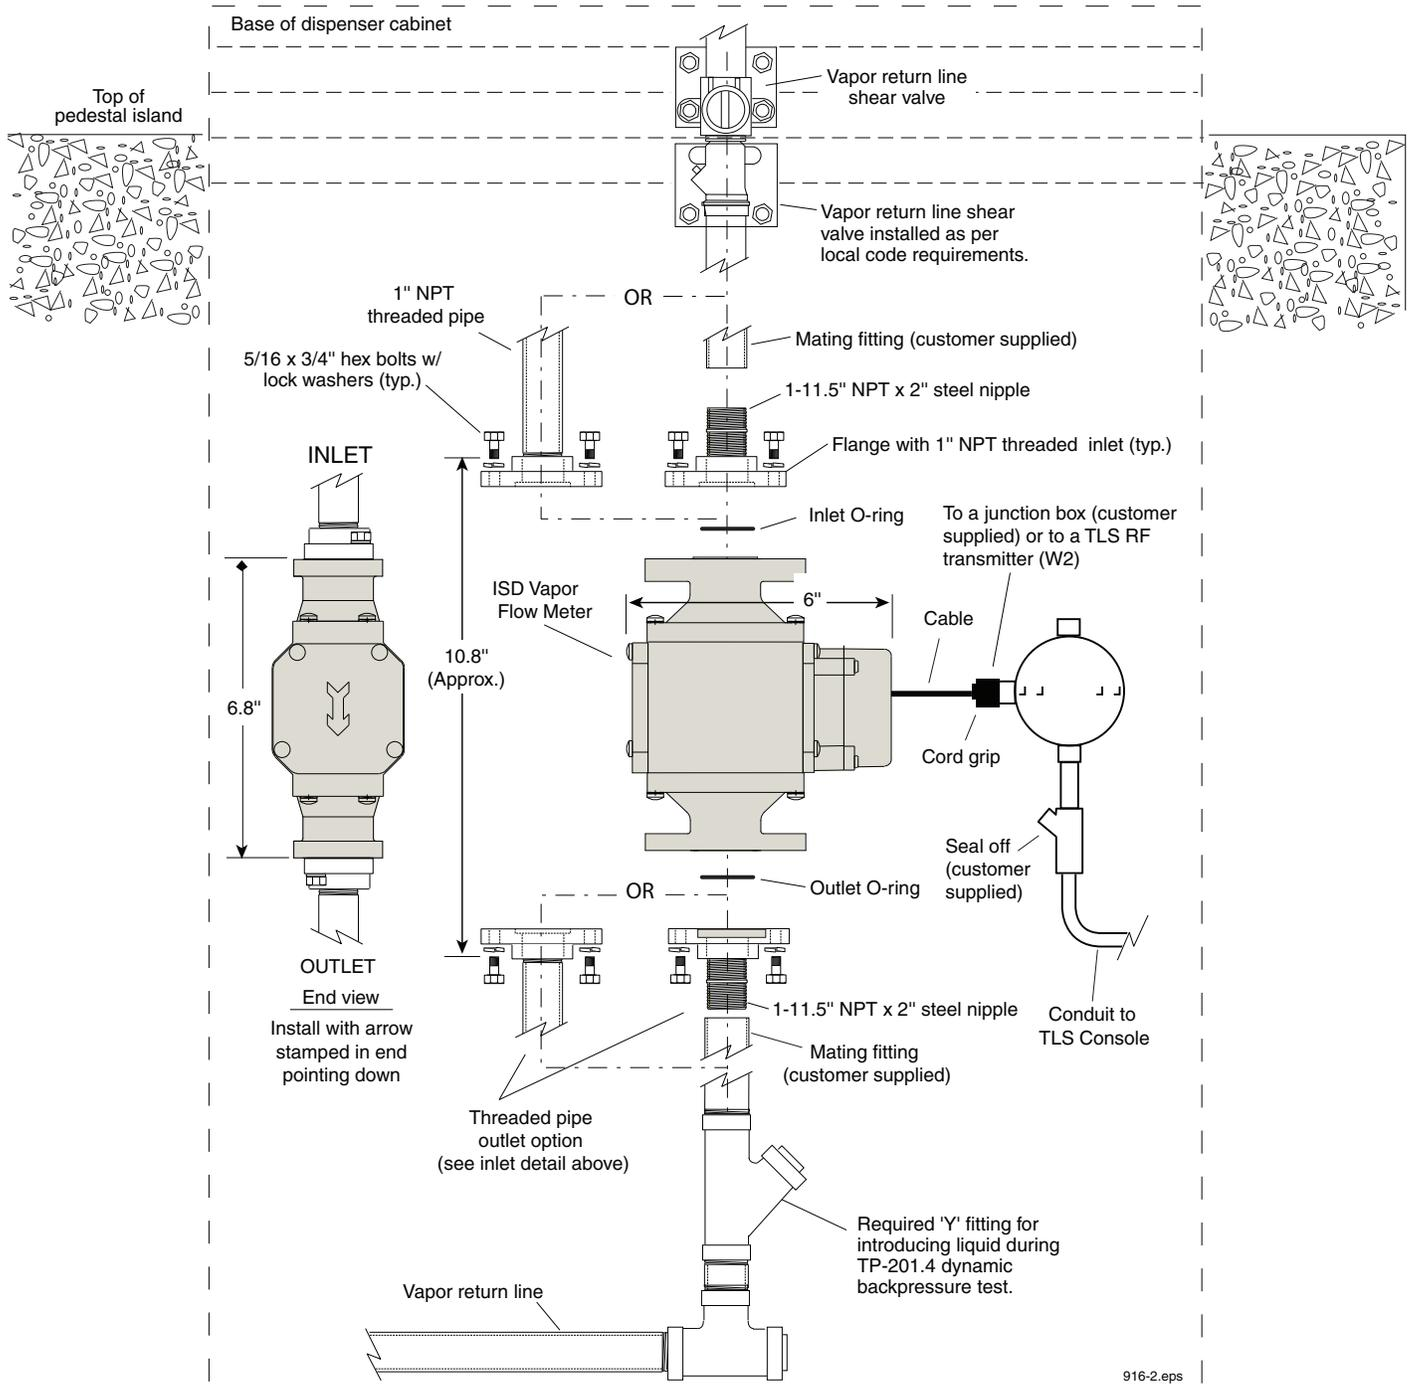

Figure 4. Example Vapor Flow Meter Installation Below Shear Valve
4. Connect the lower flange to the pipe that is connected to the lateral or wye access fitting (see Figure 4).